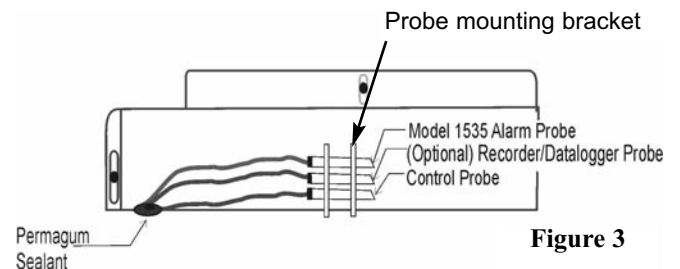

Figure 3
5. Route the recorder probe through the cabinet and into the access port. Select an available probe mounting location on the mounting bracket (Figure 3) and install the grommets included with this kit in the corresponding locations. Carefully insert the probe through the black rubber grommets on the probe mounting bracket.